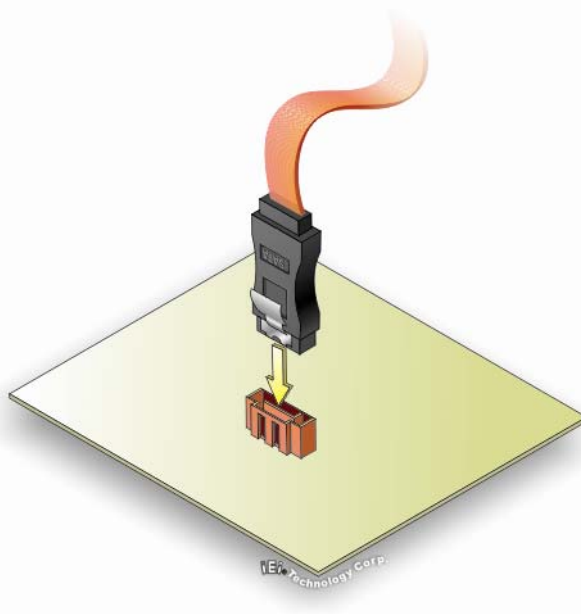

Figure 4-16: SATA Drive Cable Connection
Step 2: Insert the cable connector. Insert the cable connector into the on-board SATA drive connector until it clips into place. See **Figure 4-16**.